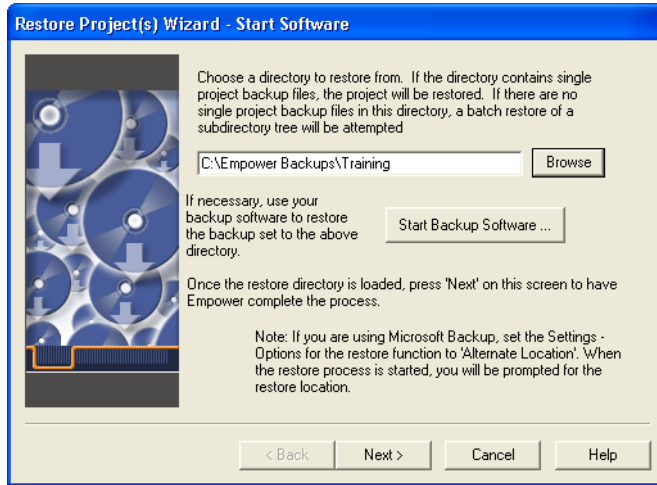

Figure 8-5 Restore Project Wizard–Start Software
1. Select **Manage > Restore Project**. The Restore Project Wizard—Start Software page appears (Figure 8-5).